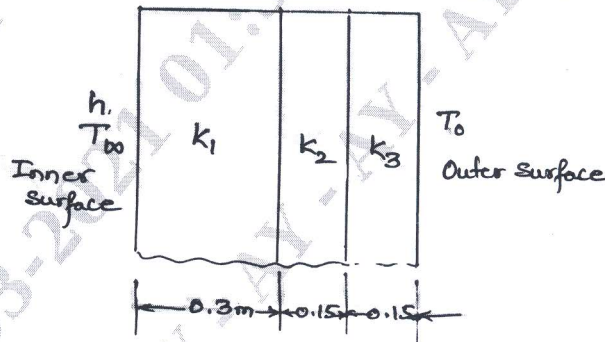

Fig Q8(b)
- b. Compute the temperature distribution in the composite wall Fig Q8(b), using 1D heat elements. Use penalty approach of handling boundary conditions. Data: $K_1 = 20\text{ W/m}^2\text{C}$; $K_2 = 30\text{ W/m}^2\text{C}$; $K_3 = 50\text{ W/m}^2\text{C}$; $T_\infty = 800^\circ\text{C}$; $h = 25\text{ W/m}^2\text{C}$, $T_0 = 20^\circ\text{C}$.